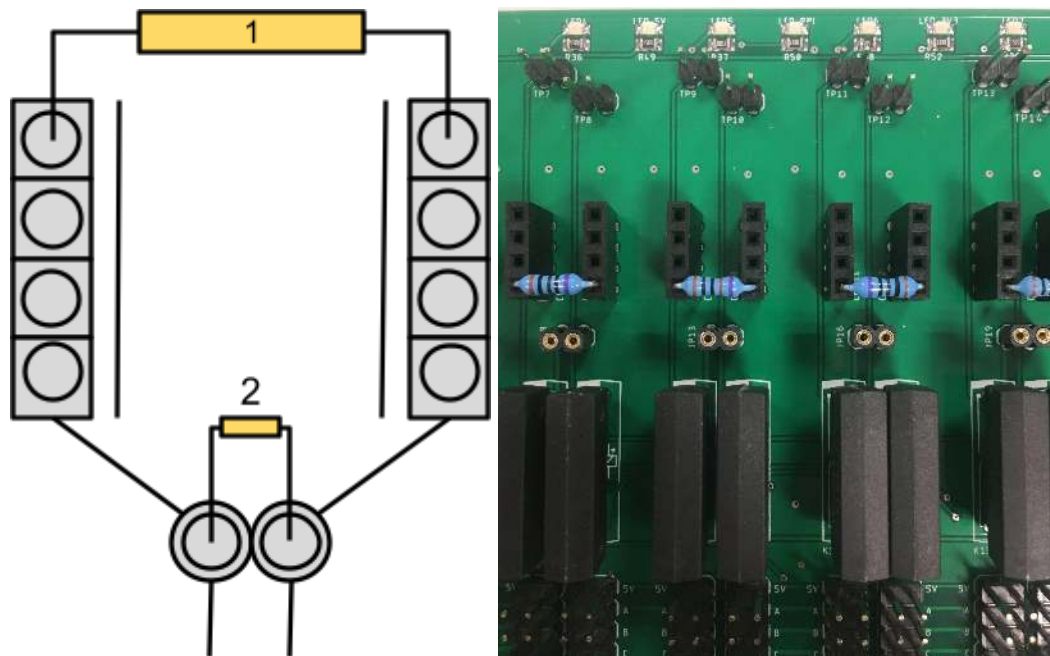

Figure 3.8: Connections in the 10 components board.
The schematic in Figure 3.8 shows how the sockets are interconnected. There are 2 ways of connecting a component:
1. By placing one leg in one of the sockets in the left column and the other leg in a socket in the right column (See Figure 3.8).